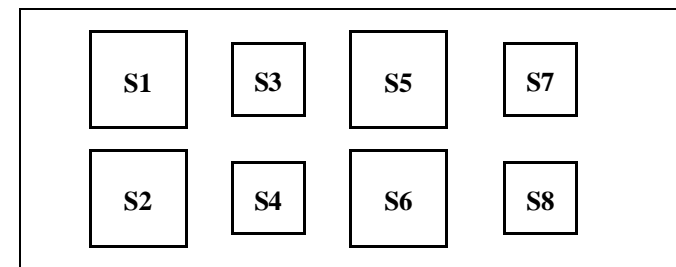

Figure 2 - Switch Numbers For The Control Panel Test
turned on simultaneously, the LCD will display "S" ("switch") in the channel indicator and the number of the switch in the mode indicator. Figure 2 shows how each Control Panel switch is numbered in the test.
5. Press each of the Control Panel switches. The LCD will display "S" (switch) in the channel indicator and the number of the switch in the mode indicator. Figure 2 shows how each switch is numbered. When a switch is released, the LCD will resume turning off each segment.